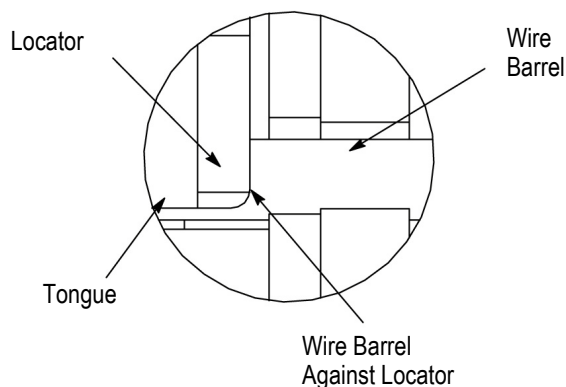

Figure 4
3. Then position the terminal between the crimping dies (Figure 4). The terminal is properly positioned when the tongue of the terminal is under the locator and the wire barrel is against the locator.